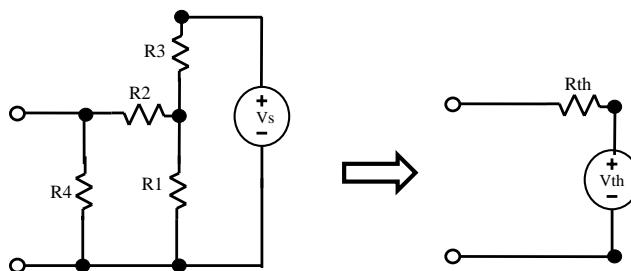
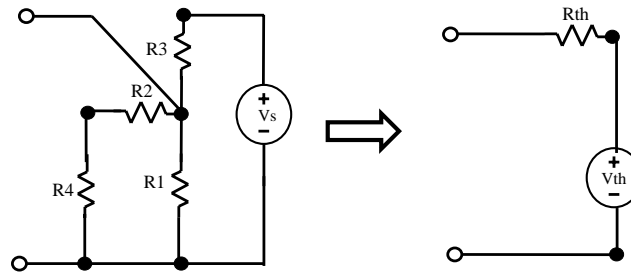

Figure 1: Simple Circuit and its Thevenin Equivalent
Figure 2: Simple Circuit and its Thevenin Equivalent for different terminals
In order to test your method for computing Thevenin equivalents, demonstrate that you can compute the correct Thevenin equivalents for the circuits in figure 1 and figure 2. In each of the figures, the pair of open circles are used to indicate the terminals for the Thevenin equivalent. Note that for these two examples, the circuits only differ in that different circuit nodes are the terminals for the Thevenin equivalent. Therefore, the two Thevenin equivalents are modeling how the circuit will respond to changes across two different pairs of terminals. For your test examples, you can assume $V_s = 5V$, and $R_1 = R_2 = R_3 = R_4 = 1K\Omega$, where $1K\Omega$ means 1000 ohms.
- Question 2.** Demonstrate that your program works correctly for the circuits in figure 1 and 2.